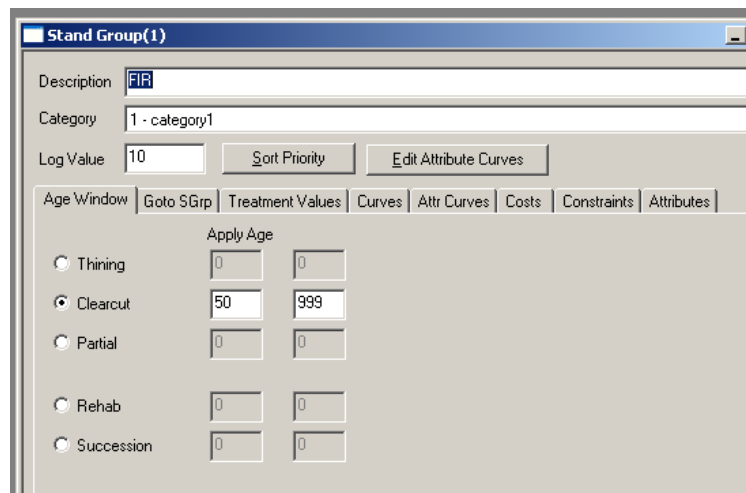

Figure 39: Stand group window used in long rotations
- 6.1.6 Select *SGrp 1 – FIR* by double clicking on it. The *Stand Group 1-FIR* window shown in figure 39 should appear.